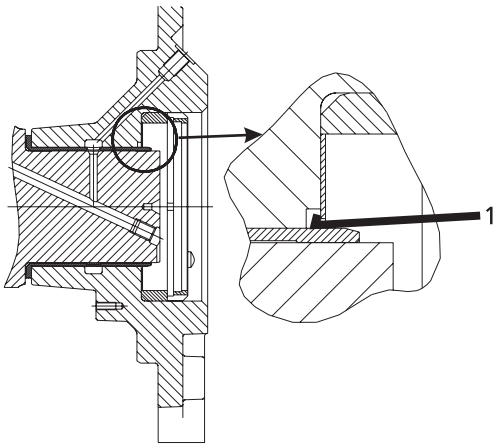

Fig. 2.10-6 Remove thrust washer with hook (1)
- ☐ Remove the 7 mm. thick housing washer (1) from the hold down disc (4).
- ☐ Remove the needle thrust bearing (2) from the hold down disc (4).
- ☐ Remove the now accessible four M10 socket bolts (3) and the hold down disc (4) which is connected to the shaft washer (5).
- ☐ Remove the shaft washer (5) from the crankshaft.
- ☐ Remove the cylindrical roller thrust bearing (6) from the crankshaft.
- ☐ The released 1 mm. thick thrust washer (7) can be carefully removed with a wire hook as shown Fig. 2.10-6.